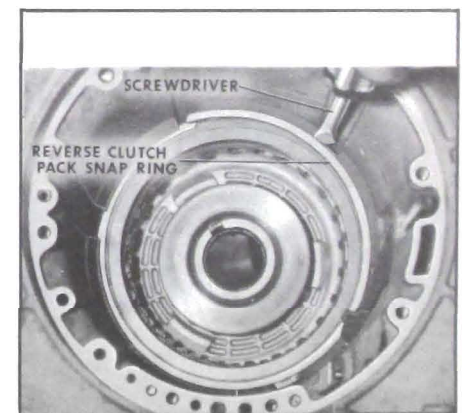

Figure 5-304
10. Install reverse clutch pack snap ring. See Figure 5-304.